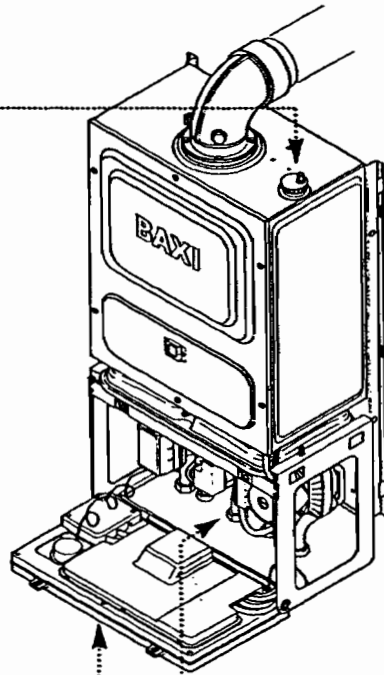

Fig. 37
5. Open the automatic air vent (Fig. 37). To help purge the primary circuit turn the pump on & off several times by using the On-Off selector switch (Fig. 39).